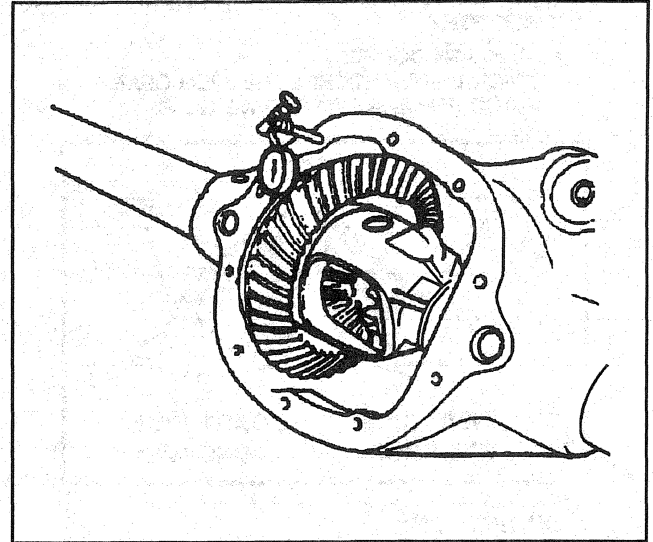

Figure 25—Checking Ring Gear Backlash
- Set the dial indicator so the stem is in line with the gear rotation and perpendicular to the tooth angle (Figure 25).